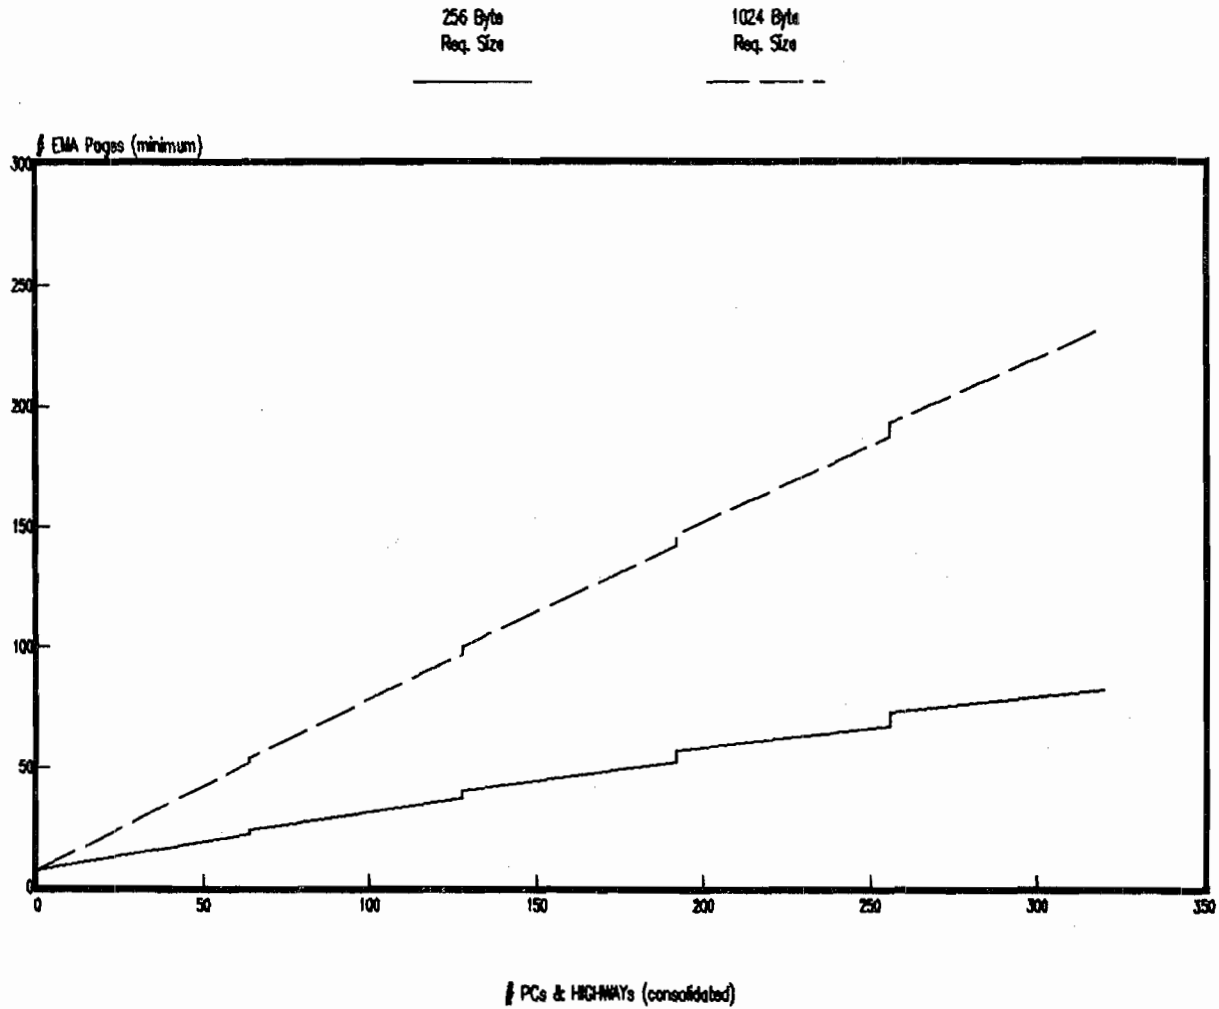

Figure 6.4 Minimum EMA Size
- Note: (1) It is recommended that the PCIF monitor be locked in memory for faster response time. However, this is application dependent and it may not be necessary for specific applications.
- (2) These programs are linked as system utility programs and MUST have an ID segment (can be created with RTE A command: RP,...). If the RTE-A system has a session monitor, these programs can only be removed by a super-user. The assignment of an ID segment to these programs can be done in the welcome file.
- (3) This program is required for specific P/Cs to download communication protocol to the 12041A or the 12041B downloadable MUX. Refer to your handler reference manual if your system uses either of these MUX cards.
- (4) The EMA size needed by the PCIF monitor can be set by the user using an RTE-A "SZ" command. The minimum size can be approximated using Figure 6.4 on the following page.